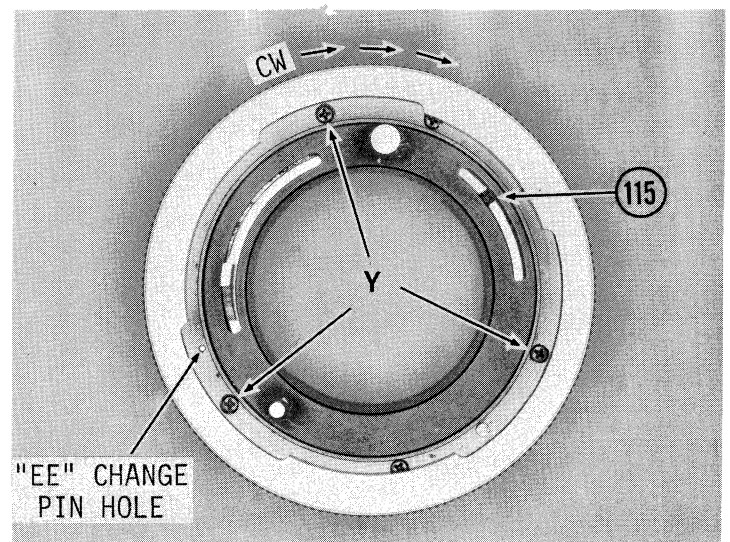

Fig. 45
- 5.4.1.6 Rotate Locking Ring (122) clockwise until it engages and begins to rotate Diaphragm Setting Ring (115); then rotate Locking Ring counterclockwise again, until Setting Ring just stops. Leave Locking Ring exactly in this position, and remove three screws (Y). (Fig. 45)